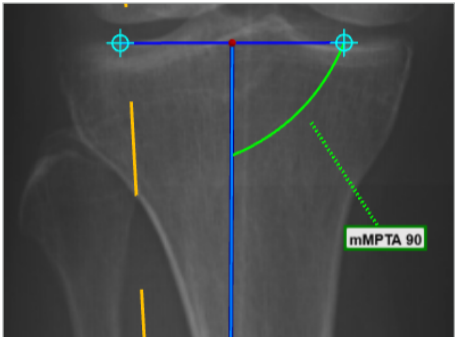

Figure 79
4. The distal tibial markers are placed on the medial and lateral aspects of the distal tibial plafond or the proximal talar dome. **(Figure 79)**